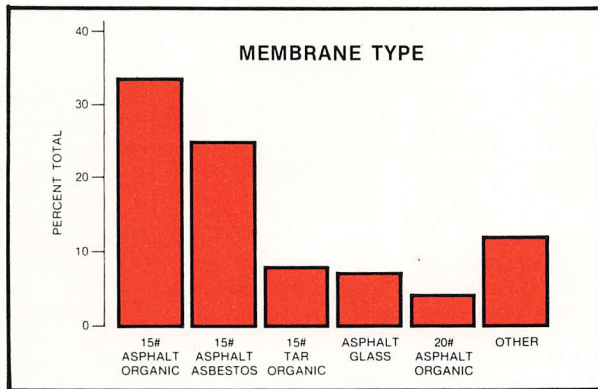

FIG. 3
- Figure 3 - Looking at similar data on membrane type distribution, the results are as might be expected, 15# asphalt organic and asphalt asbestos felts account for some 60% of the projects reported.